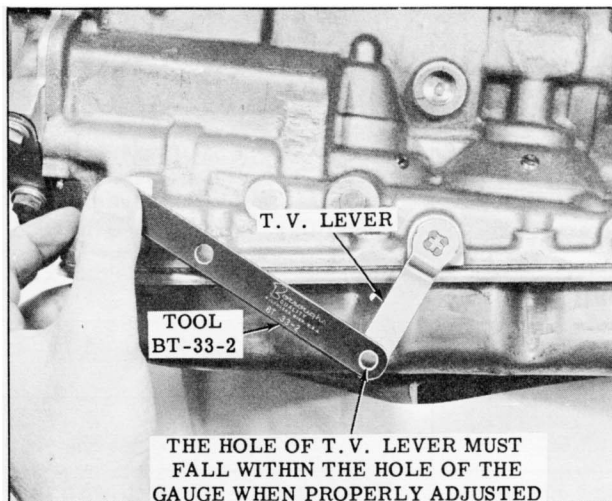
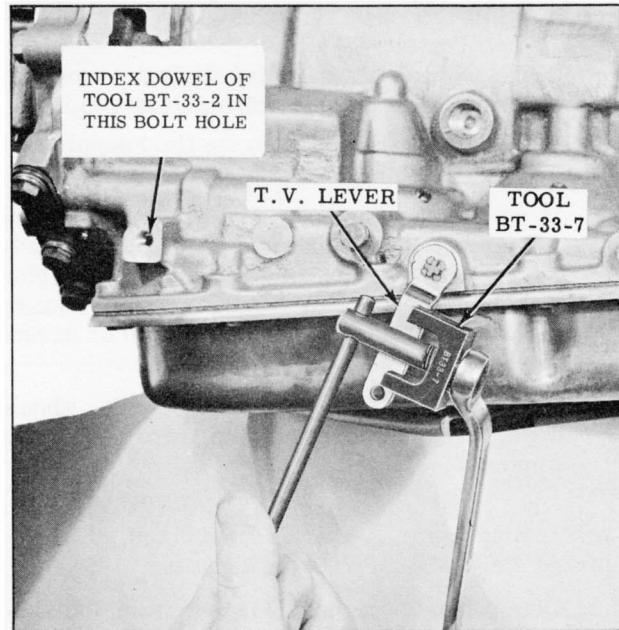

Fig. 8-120 Checking T.V. Lever
Fig. 8-121 Bending T.V. Lever
2. Disconnect lower T.V. rod from T.V. lever and position gauge BT-33-2 as shown in Fig. 8-120. The hole of the T.V. lever must be within the hole of the gauge when holding the T.V. lever in the rearward position. If the hole of the T.V. lever does not fall within the gauge hole, bend the lever with bending tool BT-33-7. (Fig. 8-121)